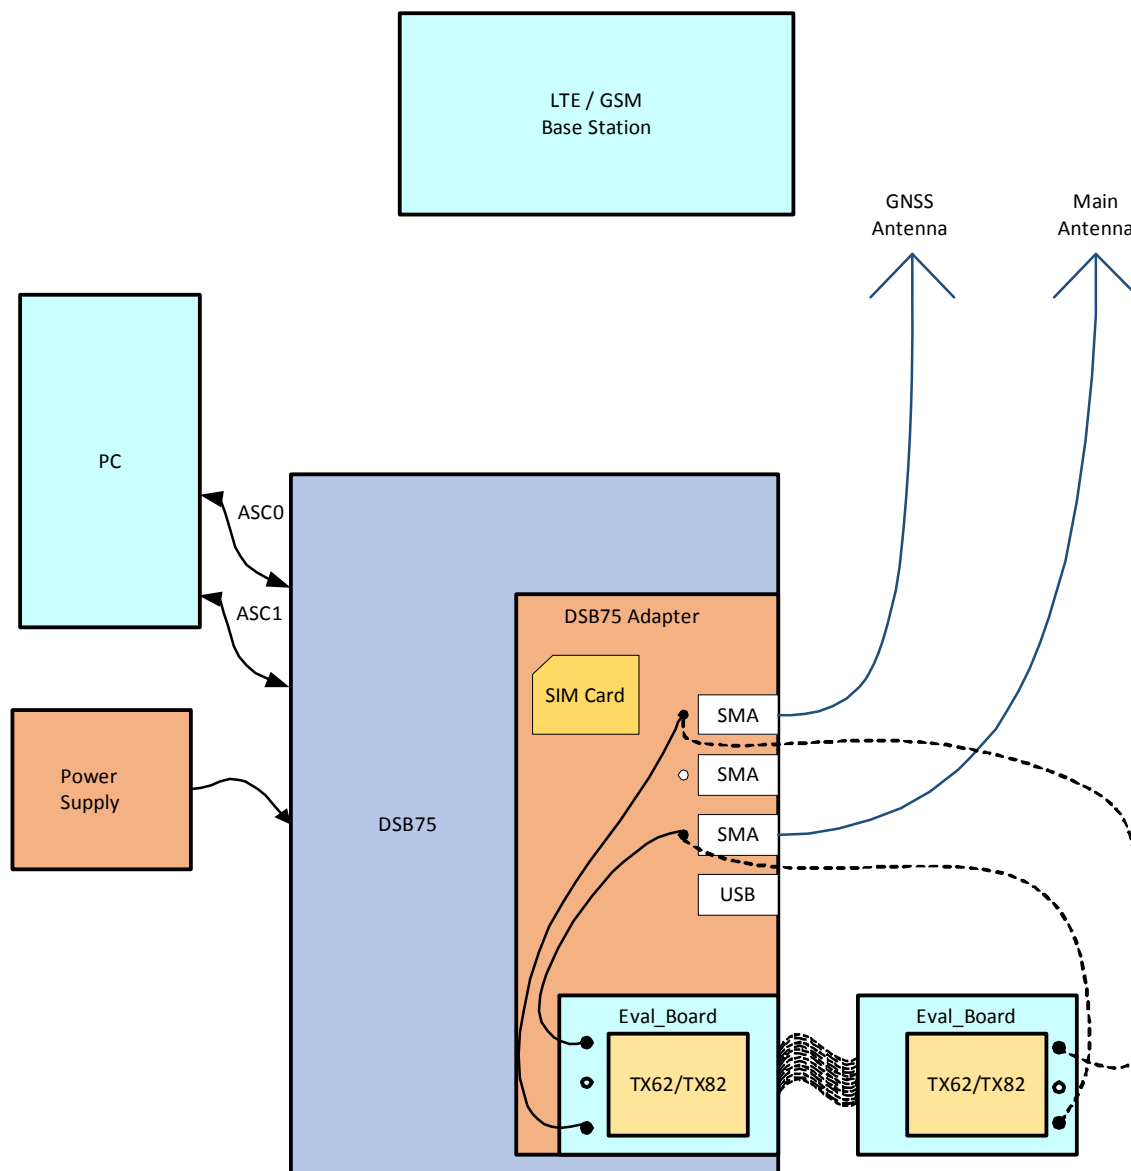

Figure 74: Reference equipment for type approval
1. For RF performance tests a mini-SMT/U.FL to SMA adapter with attached 6dB coaxial attenuator is chosen to connect the evaluation module directly to the LTE/GSM/GNSS test equipment instead of employing the SMA antenna connectors on the TX62/TX82-DSB75 adapter as shown in Figure 74. The following products are recommended: